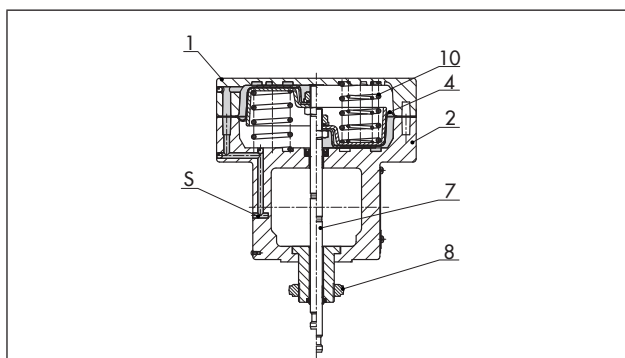

Fig. 8: Type 3277-5 for direct attachment of accessories (120 cm²)
- **Type 3277-5 · 120 cm²** actuator area, die-cast aluminum housing for direct attachment of accessories (Fig. 8), optionally with additional handwheel (Fig. 5)